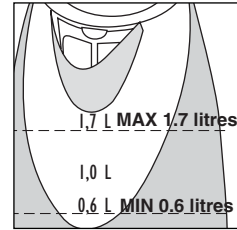

Fig.6
**Do not fill with more than 1,7 litres of water** (fig. 6).